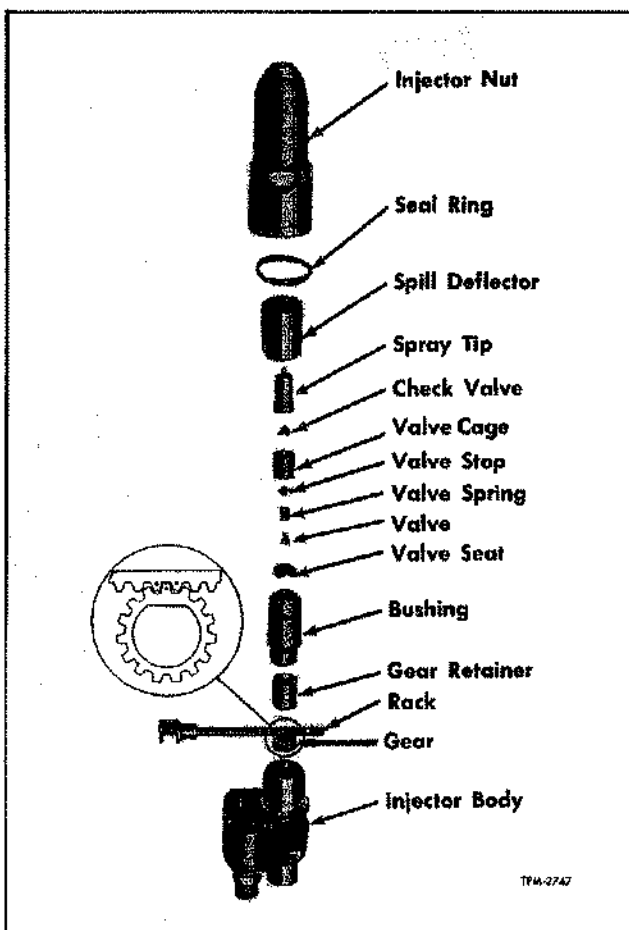

Figure 21—Injector Rack, Gear, and Spray Tip Details
7. Remove spill deflector, and seal ring, from injector nut (fig. 21).
8. Remove plunger bushing, gear retainer, and gear from injector body (fig. 21).
9. Withdraw injector control rack from injector body (fig. 21).
Refer to figure 21 and note that two of the teeth of the injector rack have a drill spot mark; also note one tooth of the mating gear is similarly marked. When rack and gear are assembled, the marked tooth of the gear must be engaged between the two marked teeth on the rack.